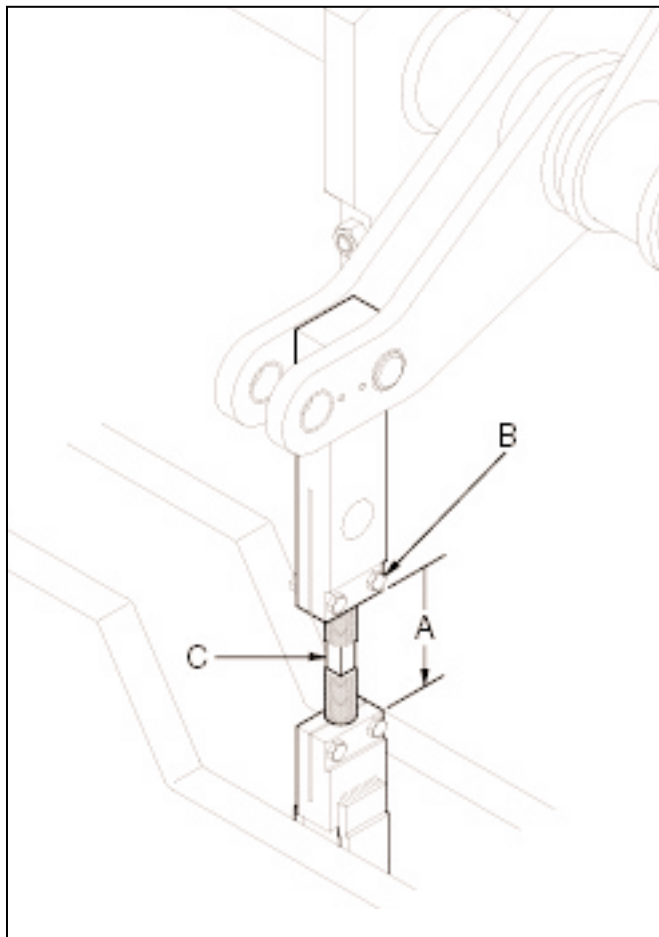

Figure 4.25 ADJUSTING STRIPPER HEAD LINKS
4.2.16 Adjust the stripper head links to a dimension of **92mm [3.61"]** between link ends (see figure 4.25) (A). To do so, loosen the two bolts (B) and turn up or turn down (C) with a wrench.